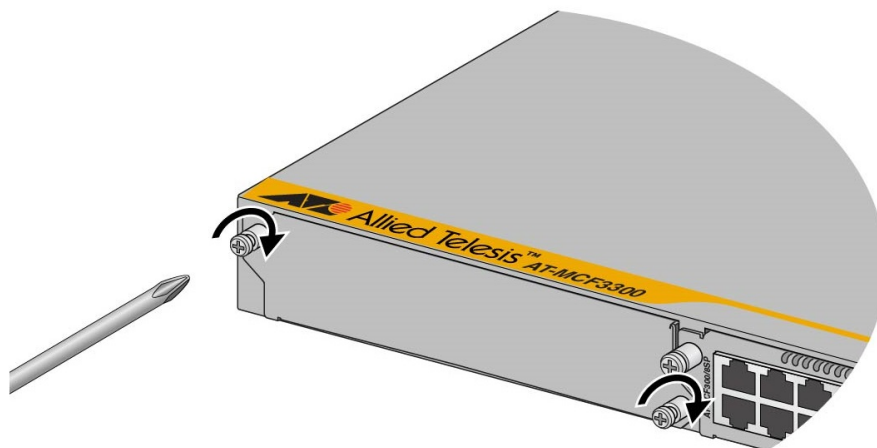

Figure 69. Installing the Slot Cover over a Media Converter Slot
7. If you are not installing a new module, position the slot cover and secure it by tightening the two captive screws. Refer to Figure 69 on page 110.